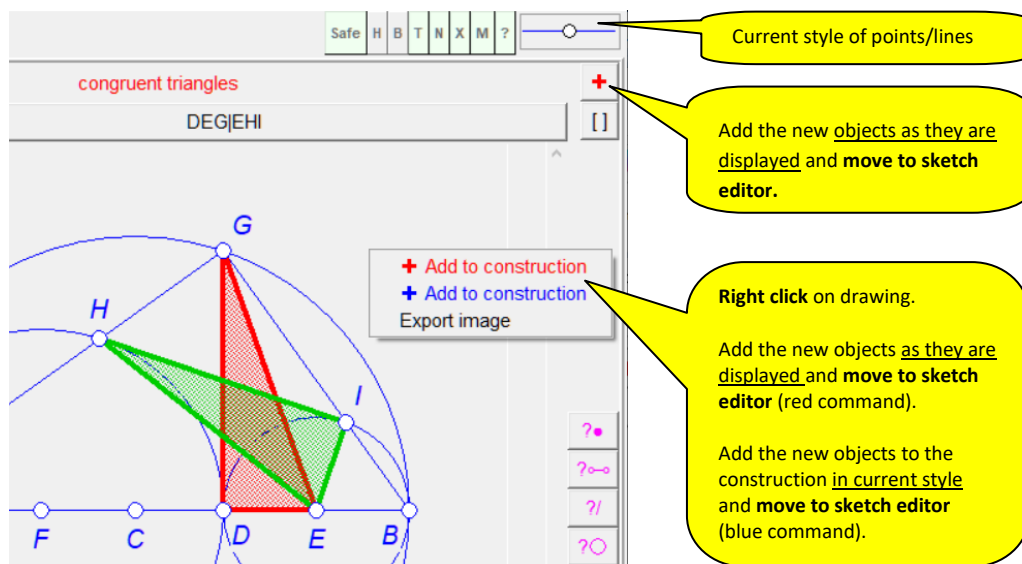

Figure 45
Sometimes we want to include objects on a visualised relation in the construction under consideration. For example, OK Geometry detects two congruent triangles (Figure 45). To include these two triangles in the construction, we right-click on the drawing and proceed in one of the two ways:
- If we choose the + command, the added objects will be displayed as ordinary objects (Figure 45).